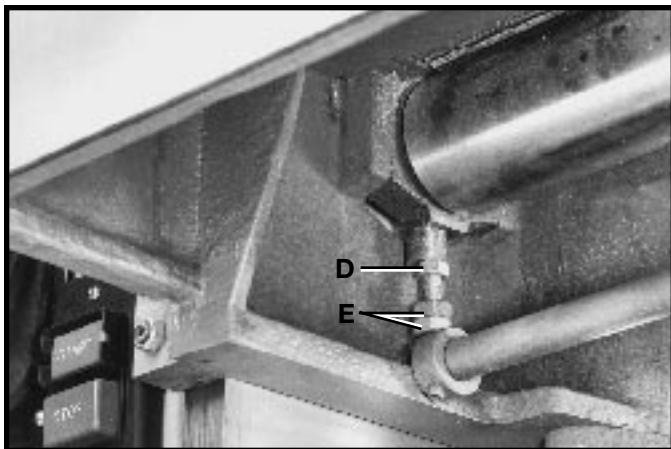

Fig. 24
4. If an adjustment to the infeed table roll is necessary, loosen locknut (D) Fig. 24, which is located under the table and below the infeed roll and rotate adjustment nuts (E) as necessary to raise or lower the height of the infeed roll.